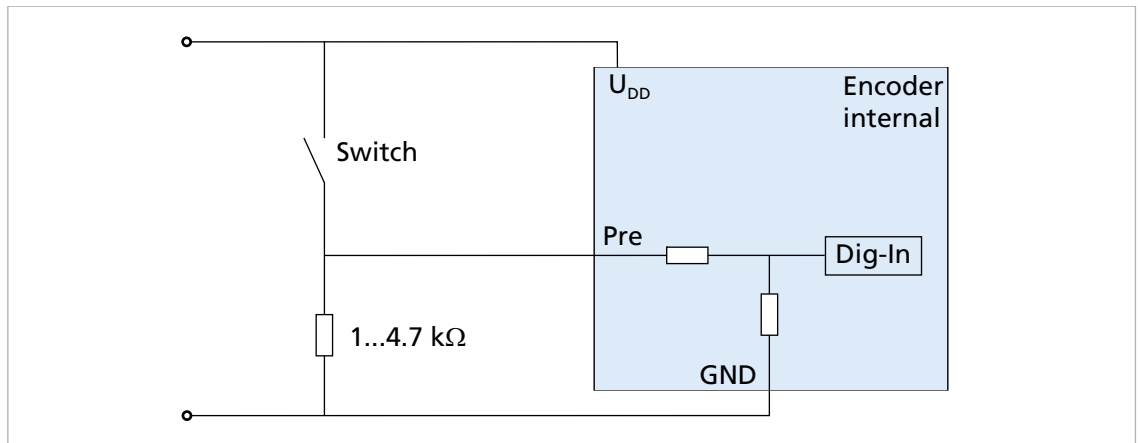

Fig. 8: Preset electrical circuit diagram
- ▶ Provide mechanical switches, see Fig. 8.